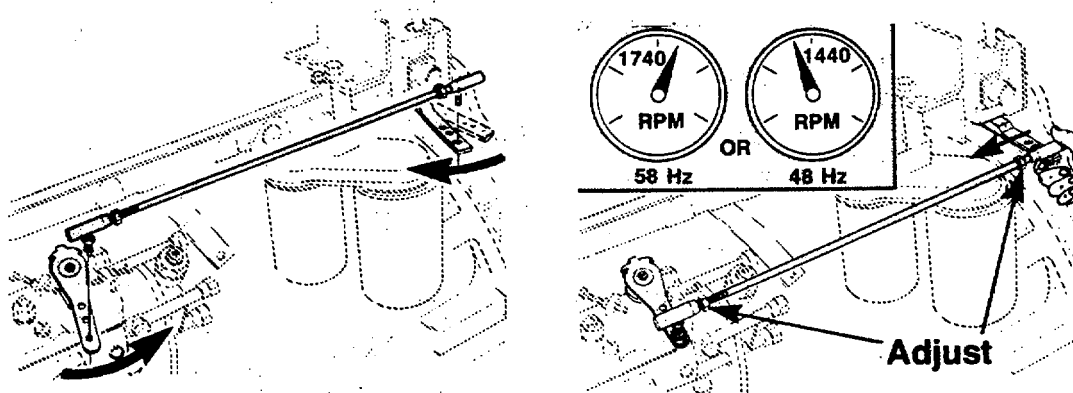

FIGURE 3-8. Install Linkage/Adjust Actuator Lever.
- (1) Position fuel pump throttle lever in the full throttle position and the actuator in the idle position. Install the linkage and start the generator set. (TM 55-1905-223-10) (FIGURE 3-8)
- (2) While holding the actuator arm in the idle position, adjust the linkage to obtain the following: (FIGURE 3-8)